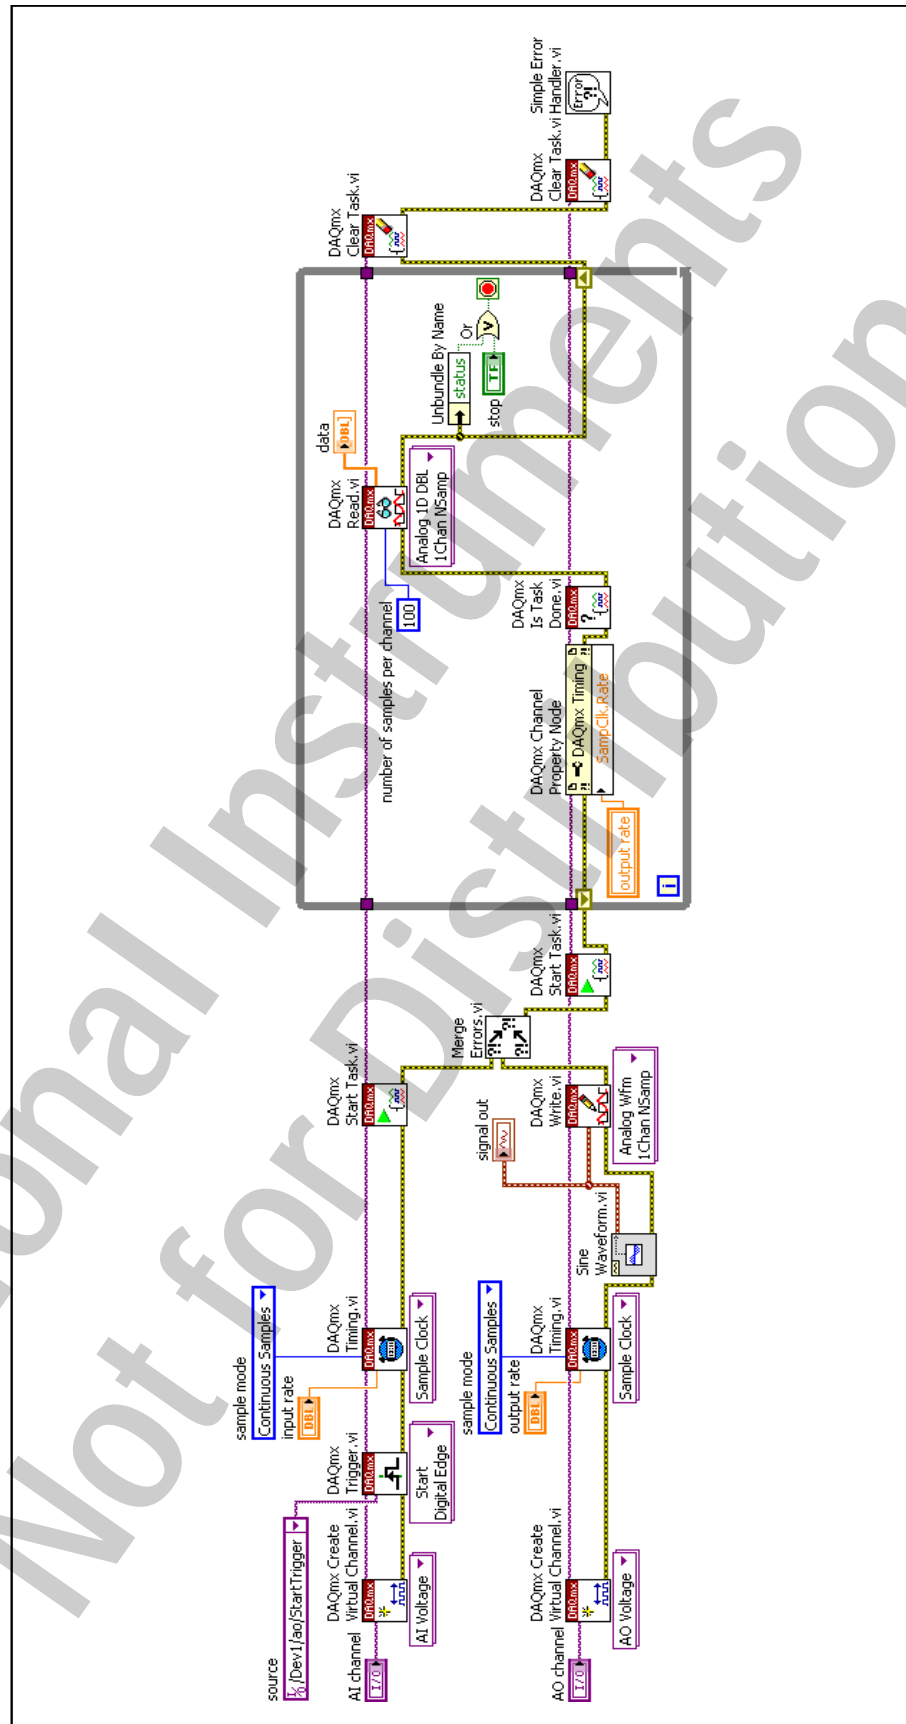

Figure 8-1. Simultaneous Start VI Block Diagram
3. Modify the VI to start two tasks at the same time without the use of a hardware trigger, as shown in Figure 8-1, using the following items:
☐ Wire and arrange the block diagram as shown in Figure 8-1.